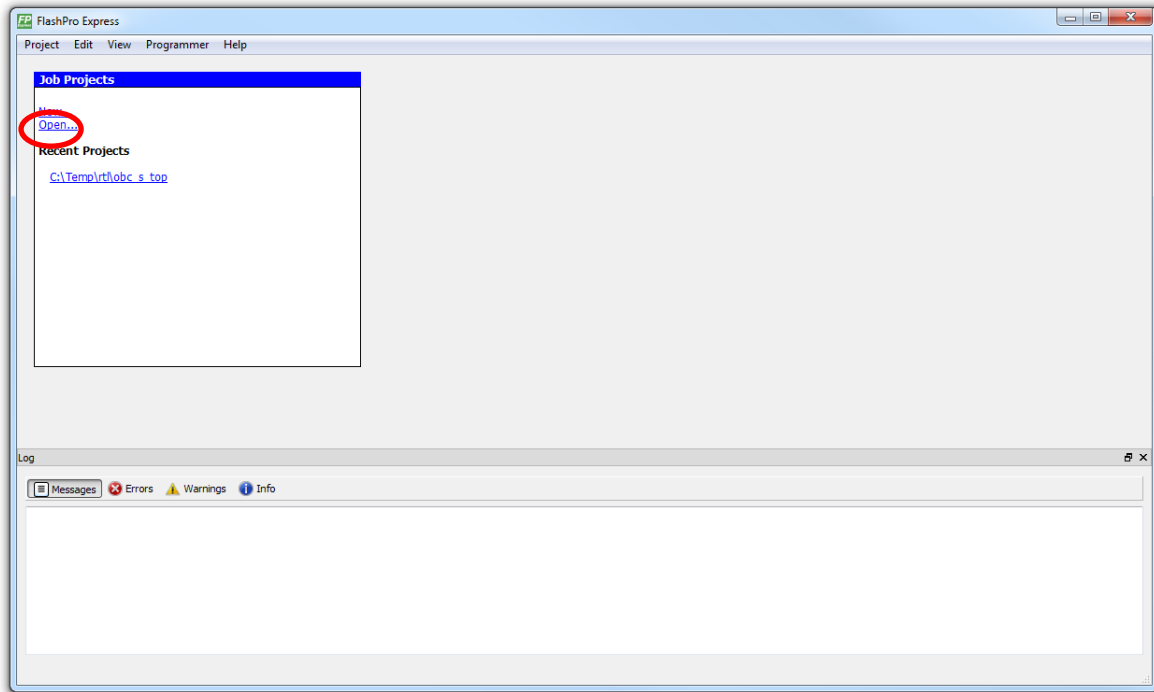

Figure 11-1 - Startup view of FlashPro Express
4. Start the FlashPro Express application, click "Open..." in the "Job Projects" box (see Figure 11-1) and select the supplied .pro file.